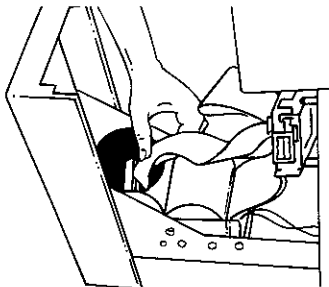

Figure 3.29 Inserting the yellow paper into the slot on the take-up reel.
8. Feed the edge of the yellow paper into the slot located on the core of the take-up reel (Fig. 3.29).